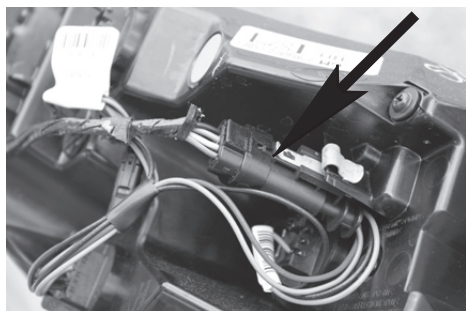

Figure 1
2. Open the rear tailgate. Using a flat screwdriver remove the plastic caps that cover the screws that hold both taillight assemblies to vehicle. Using a 7mm socket remove the two screws that hold the taillights to vehicle. Gently pull taillight away from the vehicle and locate vehicle's factory wiring harness connectors. Separate connectors from both sides and set aside shown in **Figure 1**. Inspect connectors for dirt and debris and clean if necessary.